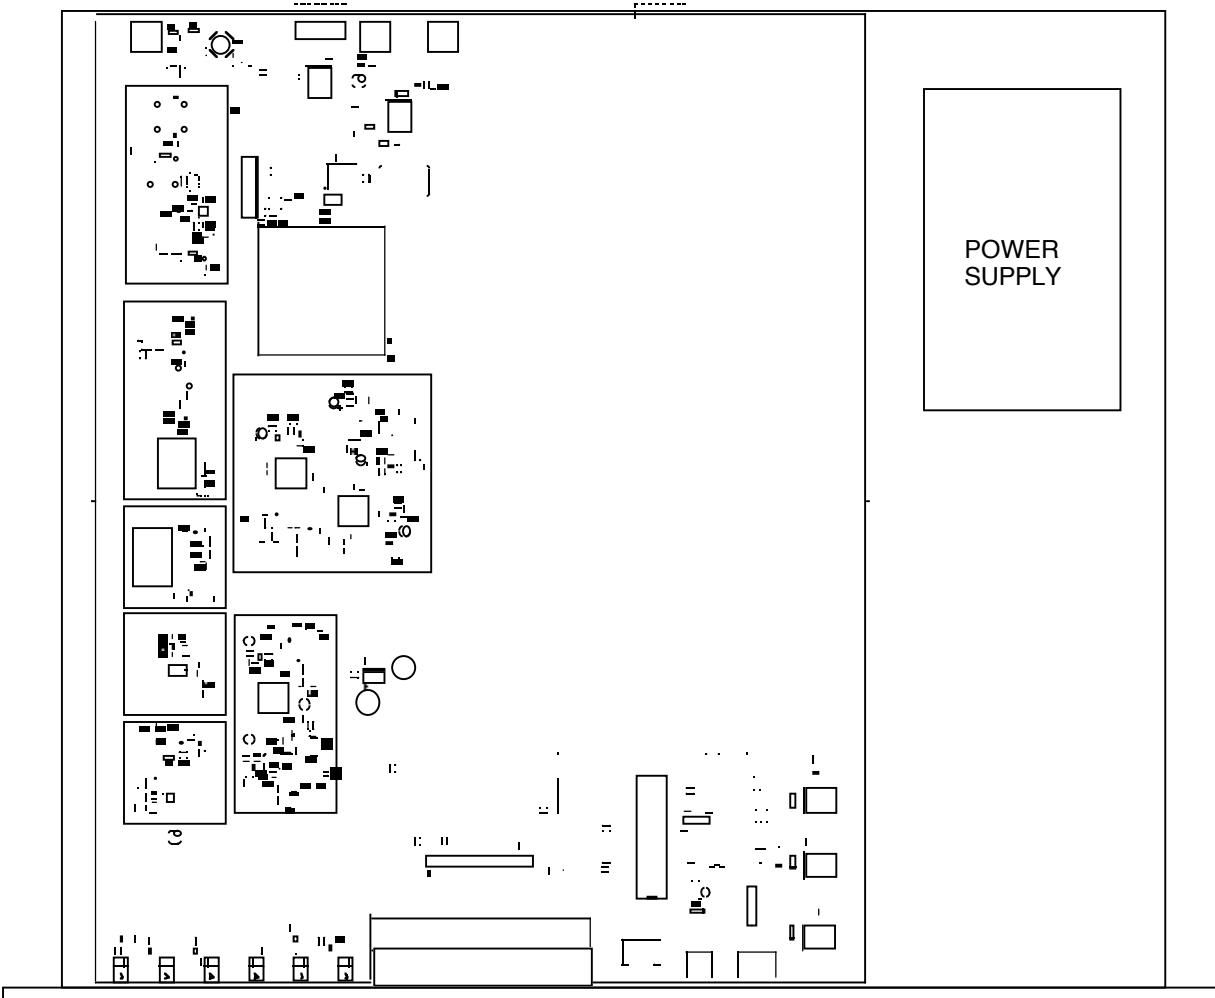

FIGURE 2.0 2015-03 Mechanical Assembly
2.1 Mechanical - The 2015-03 consists of one RF/Controller PCB housed in a 1 RU (1 3/4 inch high) by 16 inch deep chassis. A switching, ± 12 , +24, +5 VDC power supply provides power for the assemblies. The 2015-03 can be secured to a rack using the 4 holes on the front panel. Figure 2.0 shows how the 2015-03 is assembled.